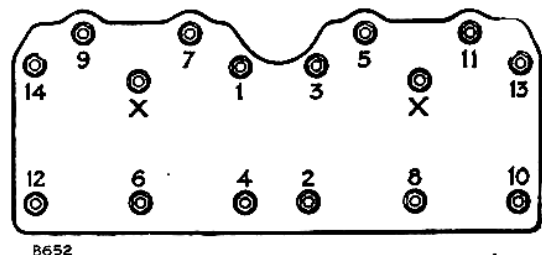

Fig. A-23—
6. Fit the rocker shaft to the cylinder head. When in position, the oil feed holes in the rocker shaft must face the push-rods. Tighten all the bolts down in the manner illustrated by Fig. A-23: $\frac{7}{8}$ in. bolts to 50 lb/ft. (7 mKg); $\frac{3}{4}$ in. bolts to 30 lb/ft. (4 mKg).